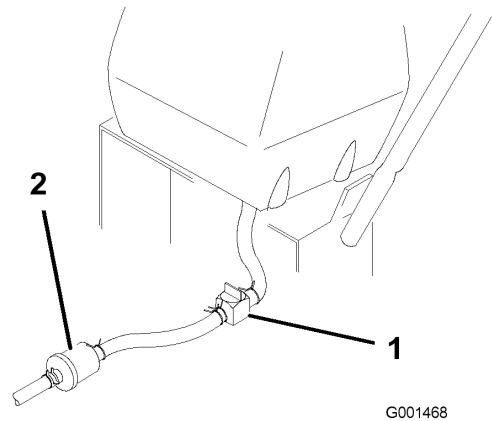

Figure 25
2. Close the fuel shut-off valve at the fuel tank (Figure 25).
3. Squeeze the ends of the hose clamp together and slide it up the fuel line away from fuel filter (Figure 25).
4. Pull the fuel line off the fuel filter (Figure 25). Open the fuel shut-off valve and allow the gasoline to drain into a gas can or drain pan.
3. Close fuel shut-off valve at the fuel tank (Figure 25).
- 7. Open fuel shut-off valve at fuel tank (Figure 25).